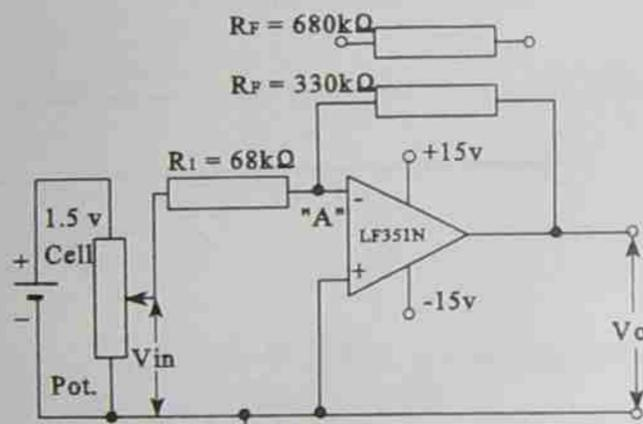

Figure 1
- (b) Connect up the circuit as shown in Figure 1.
(b) Connect up the circuit as shown in Figure 1 below.